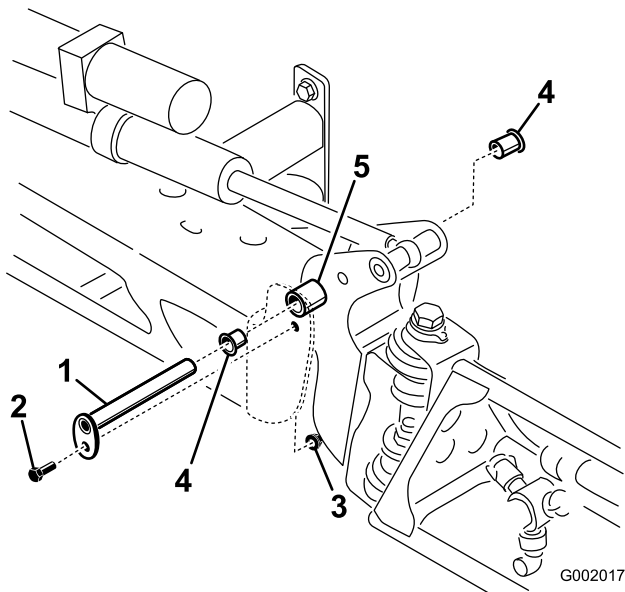

Figure 52
- With the weight of the boom supported, remove the bolt and nut securing the pivot pin to the boom assembly (Figure 52). Remove the pivot pin.
- Remove and inspect the nylon bushings from the front and back sides of the pivot bracket (Figure 52). Replace any damaged bushings.
- Install the boom and pivot bracket assembly into the center frame, aligning the openings (Figure 52).